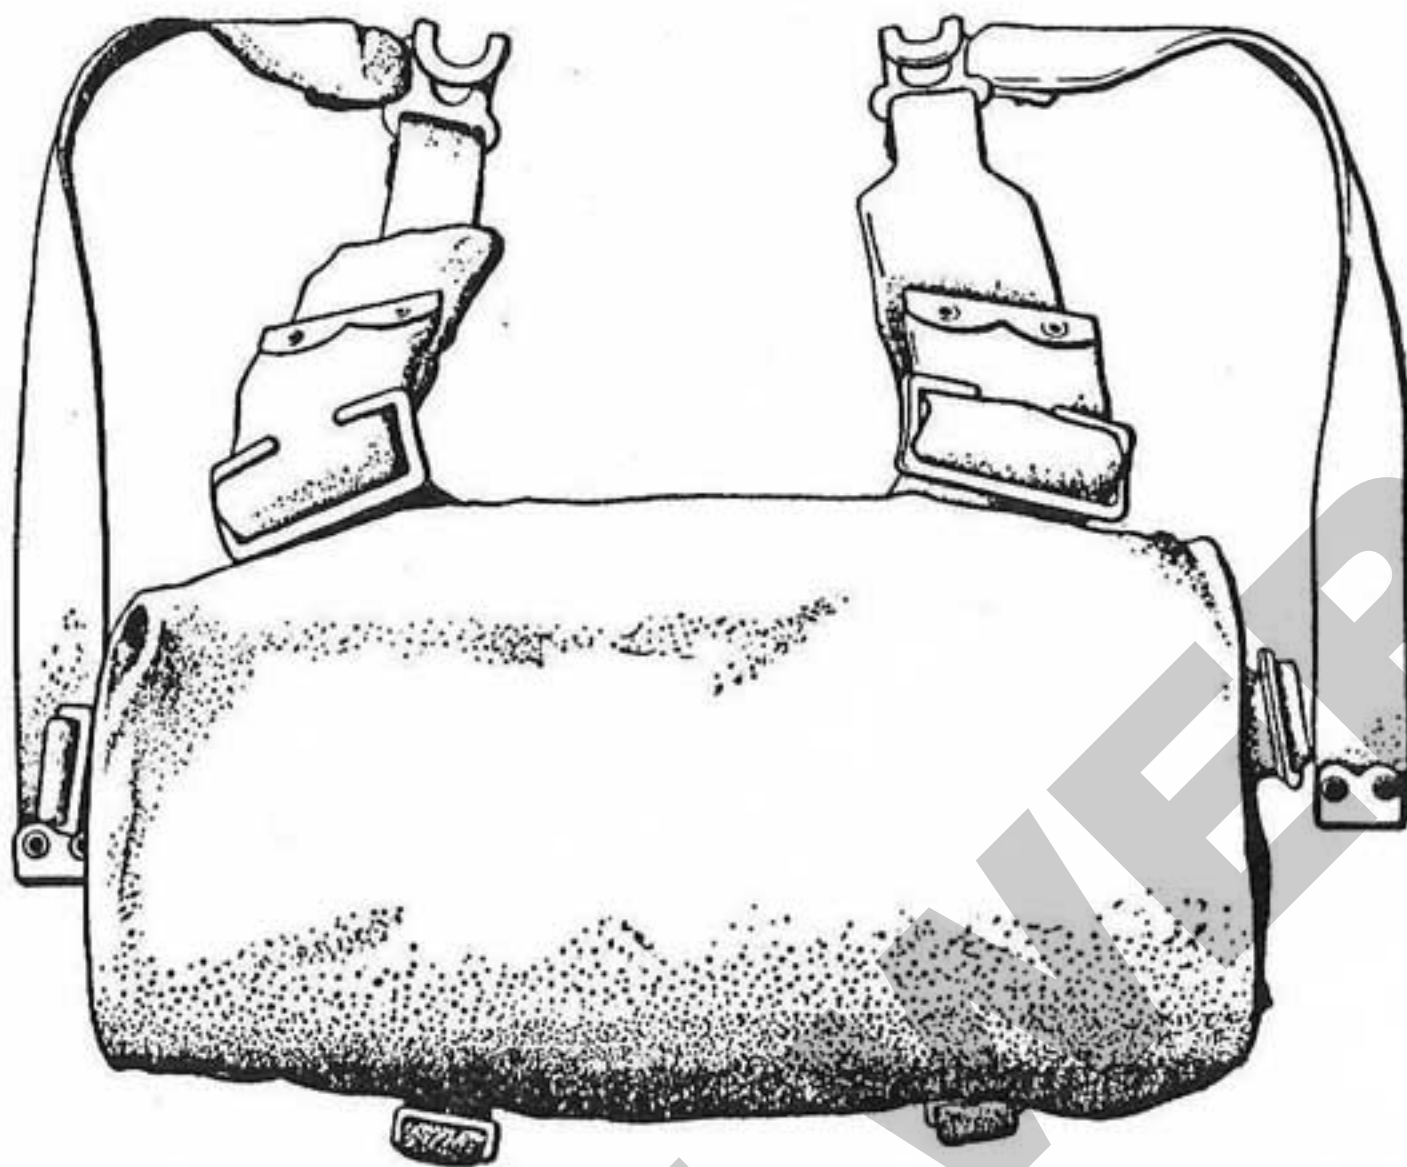

Fig. 11. Haversack (top view) showing right and left shoulder straps fitted
14. The haversack is carried on the back by the right and left shoulder straps (see Fig. 11). These straps are adjustable. The front hooks on to the buckles on the tops of the right and left basic pouches. In this position, the "Ds." on the straps are moved up so that they are on the point of the shoulders. The straps on the top of the haversack are rove through the "Ds." on the shoulder straps. The shoulder straps, with the haversack attached, are now placed on the shoulders and hooked on to the basic pouches. The loose ends of the shoulder straps are passed under each arm and then put through the buckles at the bottom of the haversack.